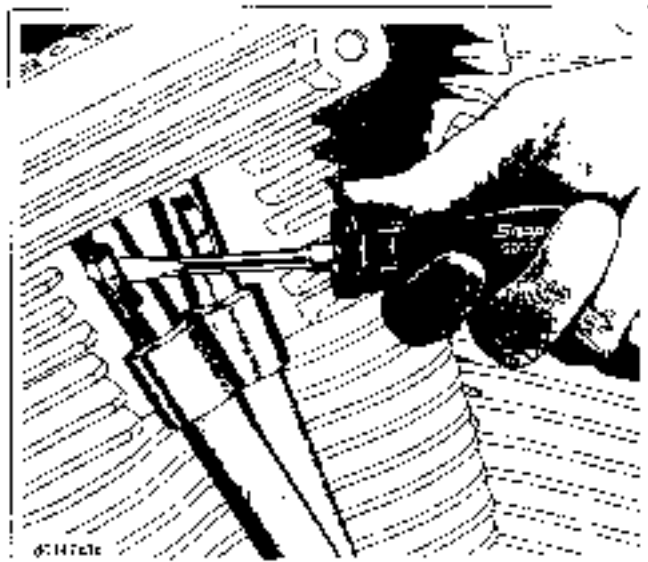

Figure 3-20. Removing Spring Cap Retainer
1. See Figure 3-20. Insert the blade of a small screwdriver into east loop of spring cap retainer (at top of upper pushrod cover). While pushing down on spring cap, rotate bottom of screwdriver toward outboard side to remove. Repeat step on second pushrod cover.